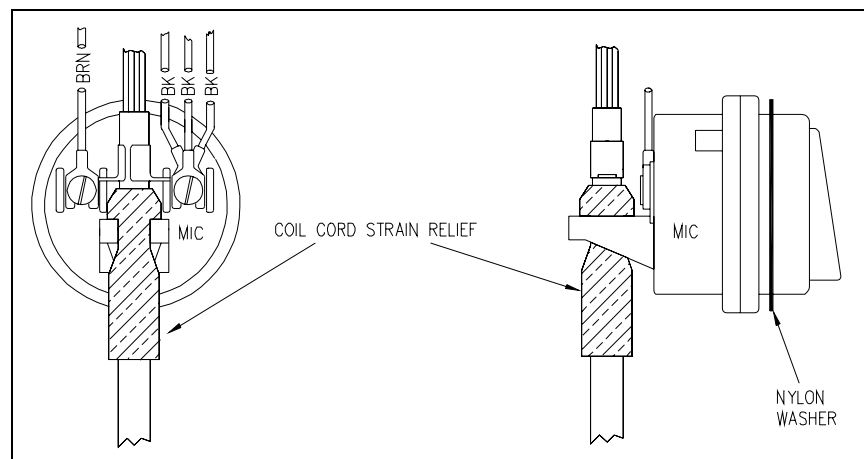

Figure 4. Microphone Installation Diagram
7. Connect the three black wires from the receiver PCBA, page switch, and coil cord to one terminal of the microphone and the brown wire from the receiver PCBA to the second terminal of the microphone. See Figure 4.
8. Carefully insert the tape splice into the microphone cavity, and push the wires toward the page switch. Install the coil cord strain relief on the microphone bracket as shown in Figure 4. Insert the microphone into the microphone cavity on the handset.
9. Install the nylon washer on the microphone. See Figure 4.